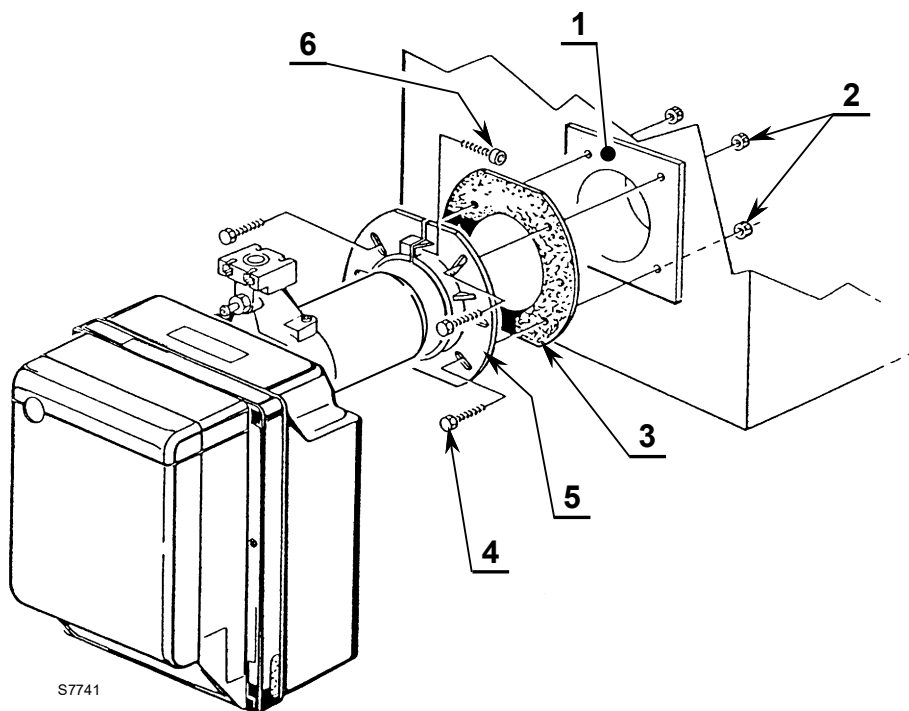

Fig. 10
- Fix the flange 5)(Fig. 10) to the door of the boiler 1)(Fig. 10) placing the insulating gasket 3) in between using the screws 4) and (if necessary) the nuts 2), but keeping one of the two top screws 4)(Fig. 10) loose.
- Insert the combustion head of the burner into the flange 5)(Fig. 10), tighten the flange with the screw 6), then lock the screw 4)(Fig. 10) which was loose.